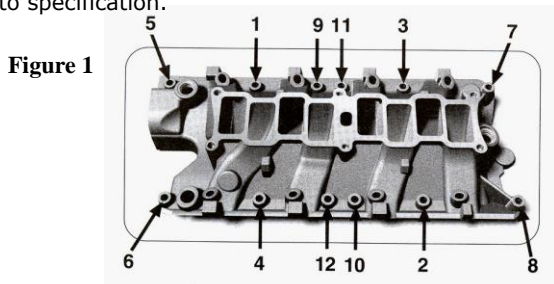

Figure 1
3. Set the Trick Flow lower intake on the block. Make sure to set it down evenly. Lightly coat your original intake bolts with oil and put them in their proper holes. Torque them in the following steps, using the sequence shown in Figure 1: 12 ft.-lbs., 16 ft.-lbs., then 22 ft.-lbs. You must repeat the sequence for each step until all the bolts are torqued to specification.